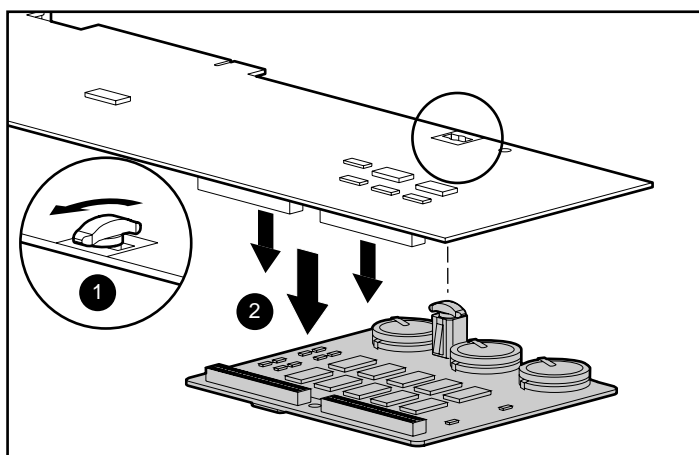

Figure F-1. Removing Array Accelerator board from the Smart Array 3200 Array Controller
5. It is important to understand the difference between SCSI cable connector layouts for the SMART Controller, SMART-2 controllers, and Smart Array 3200 Controllers. See Figures F-1 and F-2.